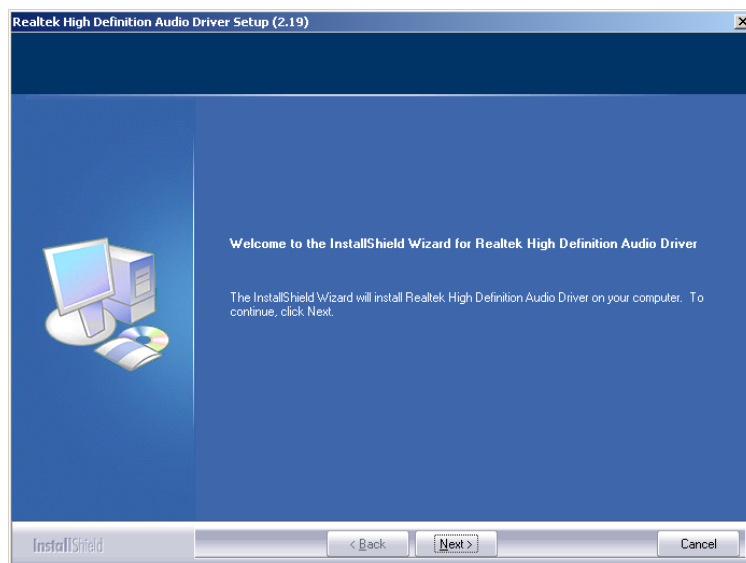

Figure 6-20: InstallShield Wizard Welcome Screen
Step 6: Once initialized, the **InstallShield Wizard** welcome screen appears (Figure 6-20).